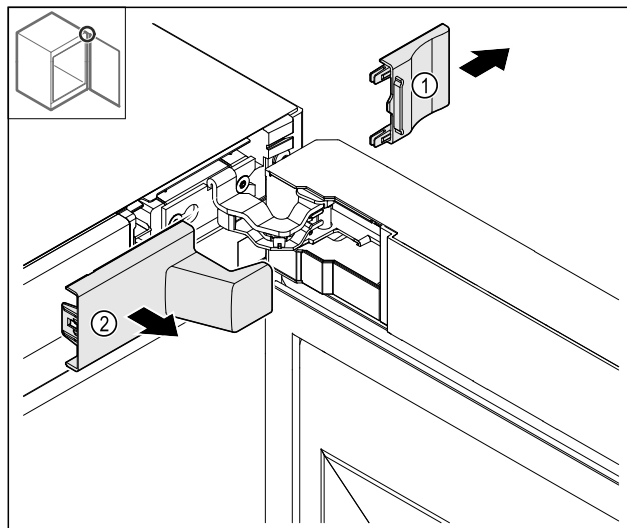

Fig. 7
- Remove the cover Fig. 7 (1) and then Fig. 7 (2).